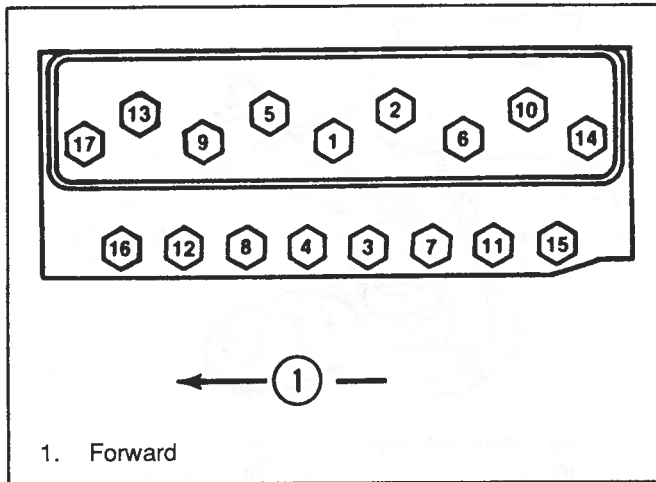

Figure 8-221. *Cylinder-Head Torque Sequence*
5. Tighten each cylinder-head bolt a little at a time, in sequence shown in Figure 8-221, until specified torque is reached.